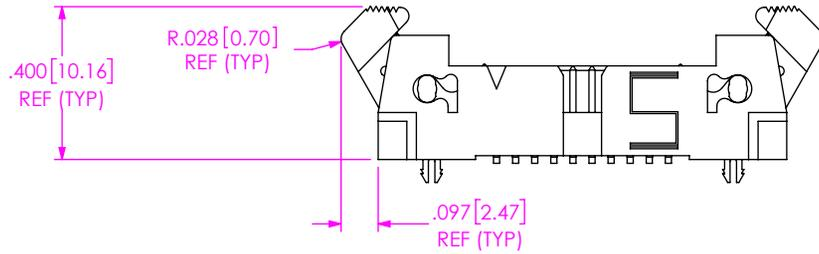

FIG 7
- P: PICK & PLACE PAD (FOR -D-SM ONLY) (FOR -03 & -04, USE PPP-25, SEE FIG 7, SHT 3) (FOR -05 THRU -25, USE PPP-48, SEE FIG 2)